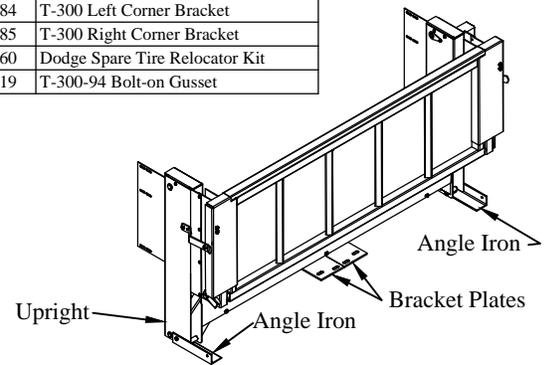

Figure 3: Complete liftgate (G2 shown).
4. **Unbolt** and **Save** the two (2) angle irons attached to the liftgate uprights- **G2 only** (Figure 3).
5. **Remove** and **Save** the two (2) bracket plates attached to the liftgate- **G2 only** (Figure 3).